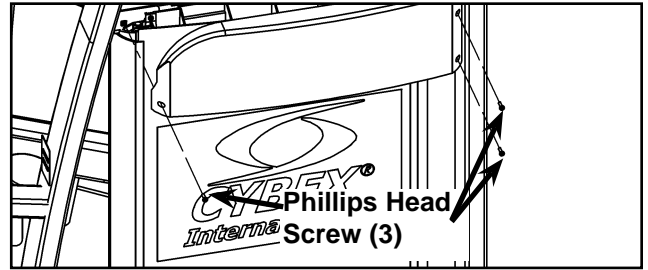

Figure 2
E. Remove the three Phillips head screws securing the top (back) shroud and carefully remove the shroud. See Figure 2.